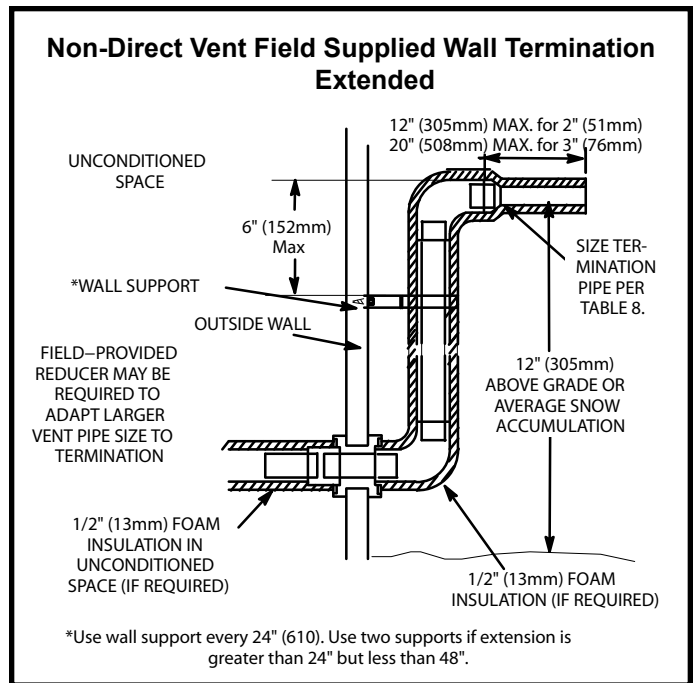

Figure 42
3. If exhaust piping must be run up a sidewall to position above snow accumulation or other obstructions, piping must be supported every 24" (610 mm) as shown in Figure 42. When exhaust piping must be run up an outside wall, any reduction in exhaust pipe size must be done after the final elbow.